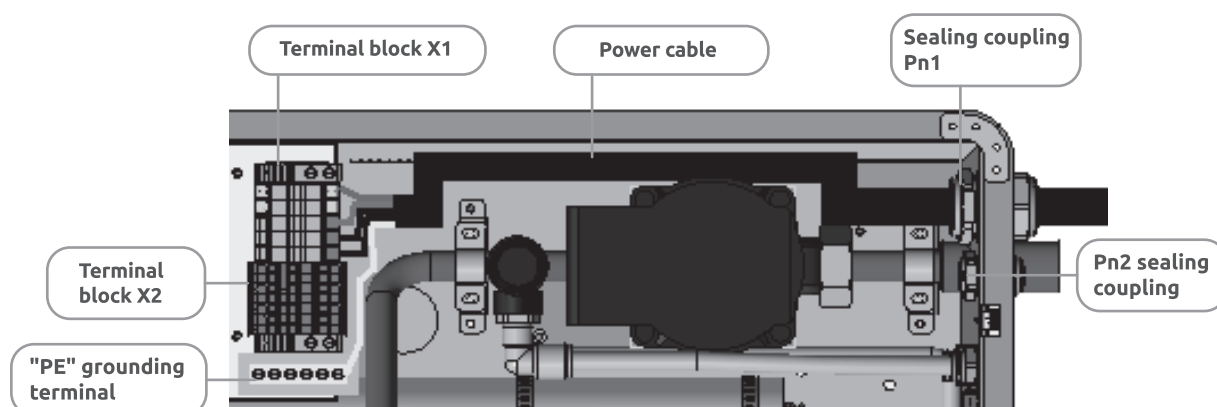

Figure 10 – Laying the power supply cable inside the boiler (the device is turned into a vertical view).
5.3.4 Insertion of cables into the electric boiler is carried out in the places of installation of sealing couplings in the lower part of the boiler body (see Figures 2, 10), the power cable must be passed through the sealing coupling Pn1, and other wires Pn2. Laying the power supply cable inside the boiler must comply with Figure 10.